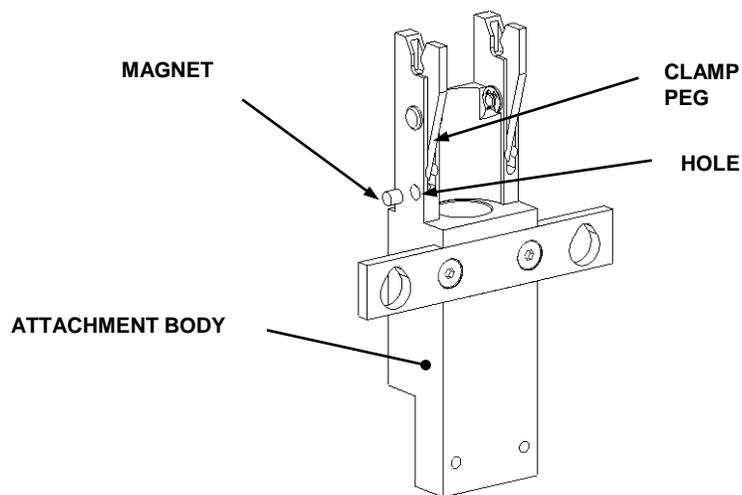

Figure 13-14: Location of the Magnet
1. Place a small amount of RTV (GE Type RTV 118) into the bottom of the hole in the side of the Attachment Body and fit a Magnet as shown in Figure 13-14. Wipe off any access RTV.